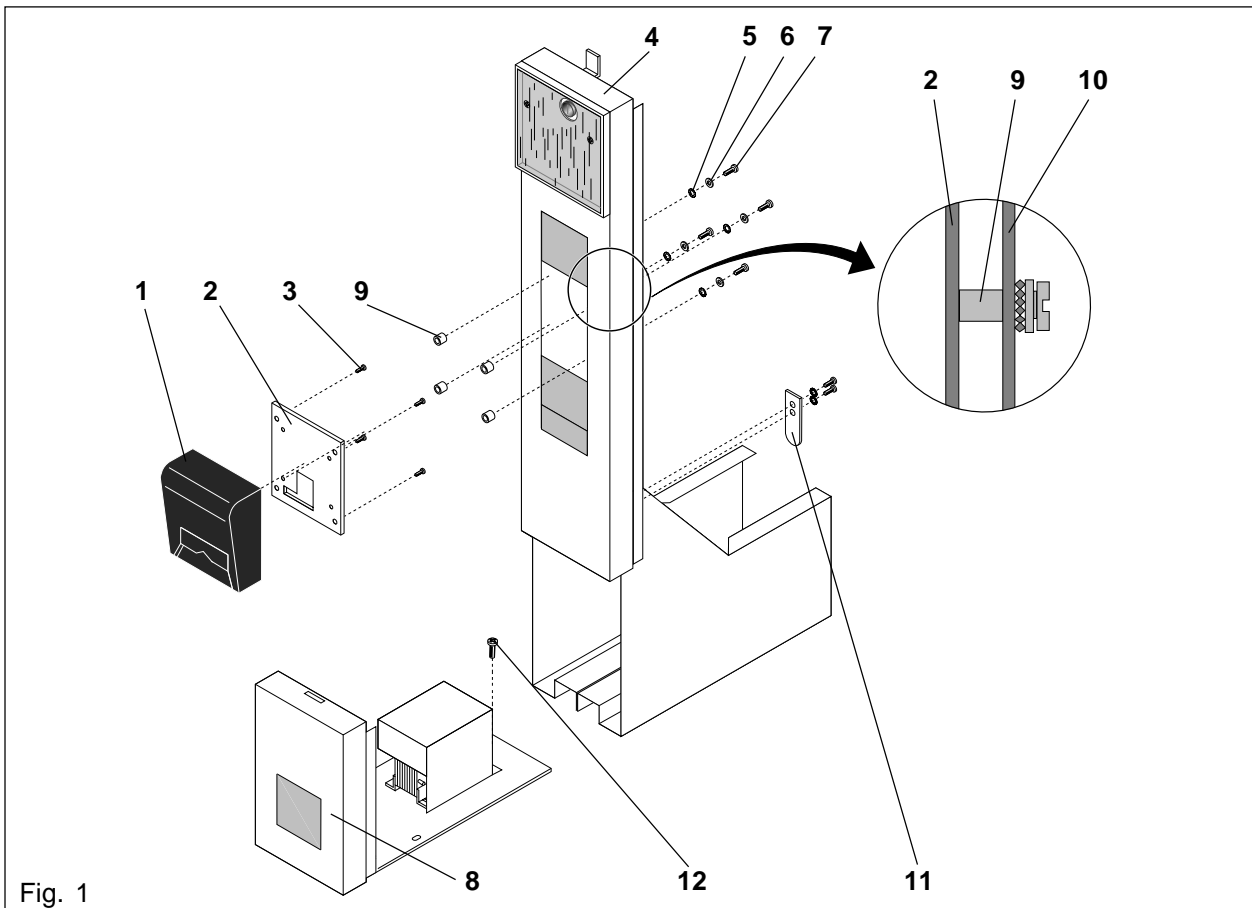

Fig. 1
- Unscrew 4 screws (7) on the front cover (2). Do not remove the screws from the console (10). Take care that the distance bushes (9) are not lost. Remove the front cover. (Fig. 1)
- Fasten the Facility card reader (1) with 4 countersunk screws (3) on the front cover (2). (Fig. 1)
- Hold the front cover with mounted card reader on the front insert (4) and fasten it with 4 screws (7), plain washers (6) and lock washers (5) through the mounted console (10) with distance bush (9). (Fig. 1)
- Push the bottom insert with transformer (8) into the front insert and fasten it with a locking plate (11) and screw (12). (Fig. 1)